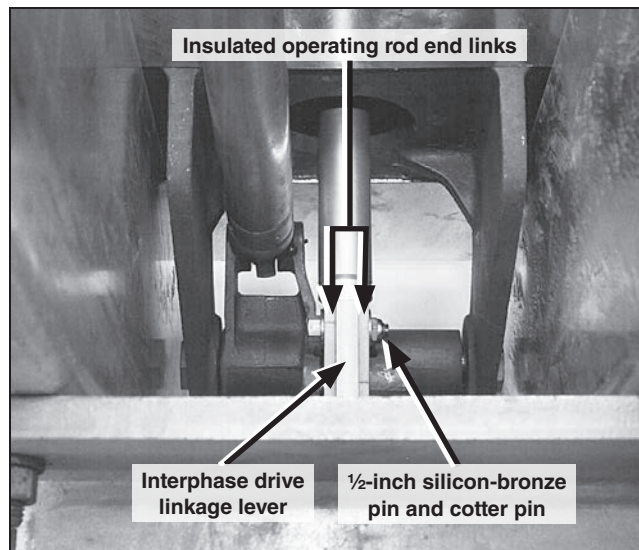

Figure 16. Attaching the insulated operating rod to the interphase drive.
- (g) Attach the insulated operating rod end links to the interphase drive linkage lever in the high-speed base using the $\frac{1}{2}$ -inch silicon-bronze pin and cotter pin retained from Step 1(d) on page 17. See Figure 16. The insulated operating rod may be moved up or down, as required, to make the connection.